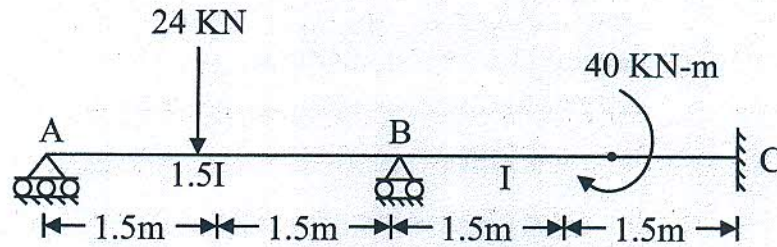

Fig. 2
6. (a) Analyse the beam loaded as shown in Fig. 2 using slope deflection method. Portion AB has a second moment of area as  $1.5I$  and BC has this value as  $I$ . Draw the bending moment and shear force diagrams.